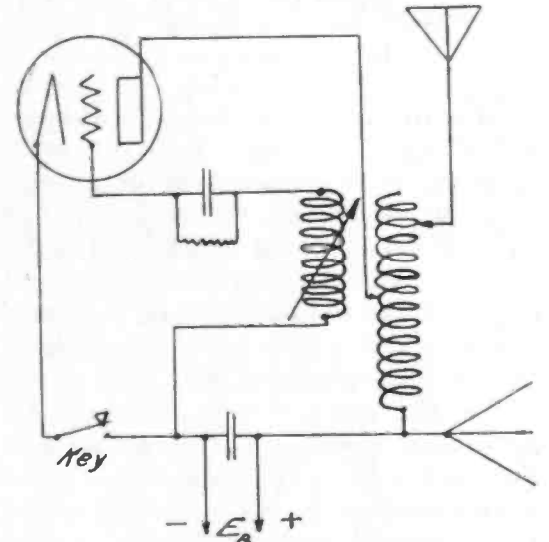

Fig. 4. High Efficiency Undamped Wave Transmitter
Fig. 4 shows a very efficient circuit for the transmission of continuous wave telegraph signals which was used by the writer as early as 1918. The power
supplied by the high voltage generator E_b is dissipated in two ways, (1) as useful output in the antenna, (2) as heat in the plates of the tube. The heating of the plates occurs because of the velocity and mass of the electrons which strike it at the end of their journey through the space between filament and plate. The plate efficiency of an electron tube high-frequency generating circuit may be defined as the ratio of the power delivered to the antenna to the total power delivered by the high voltage generator. It is easily possible to operate the circuit shown in Fig. 4 at an efficiency of 65 or 70%. Adjustments for efficiency are made by the plate tap on the coil in the aerial circuit. The frequency generated is adjusted by the aerial tap. (See article by the author on "A High Efficiency Undamped Wave Transmitter" in QST for December, 1921). A more complete discussion of the operation of tube transmitters may be taken up later.